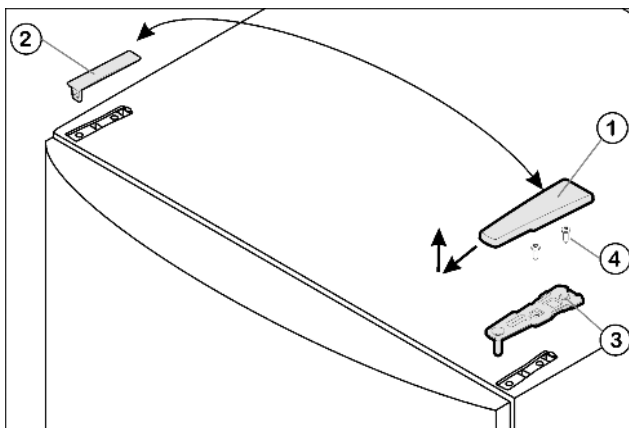

Fig. 5
- ▶ Pull off the cover Fig. 5 (1) forwards and upwards.
- ▶ Lift off the cover Fig. 5 (2).
- ▶ Unscrew the upper turn hinge Fig. 5 (3) (2x Torx® 25) Fig. 5 (4) and lift it off.
- ▶ Insert the upper turn hinge Fig. 5 (3) in the door on the new hinge side.
- ▶ Screw the upper turn hinge **firmly** into place (with 4 Nm) (2x Torx® 25) Fig. 5 (4). Possibly make preliminary holes with a bradawl or use a cordless screwdriver.
- ▶ Apply the cover Fig. 5 (1) and cover Fig. 5 (2) to the opposite side from the outside and snap them into place.